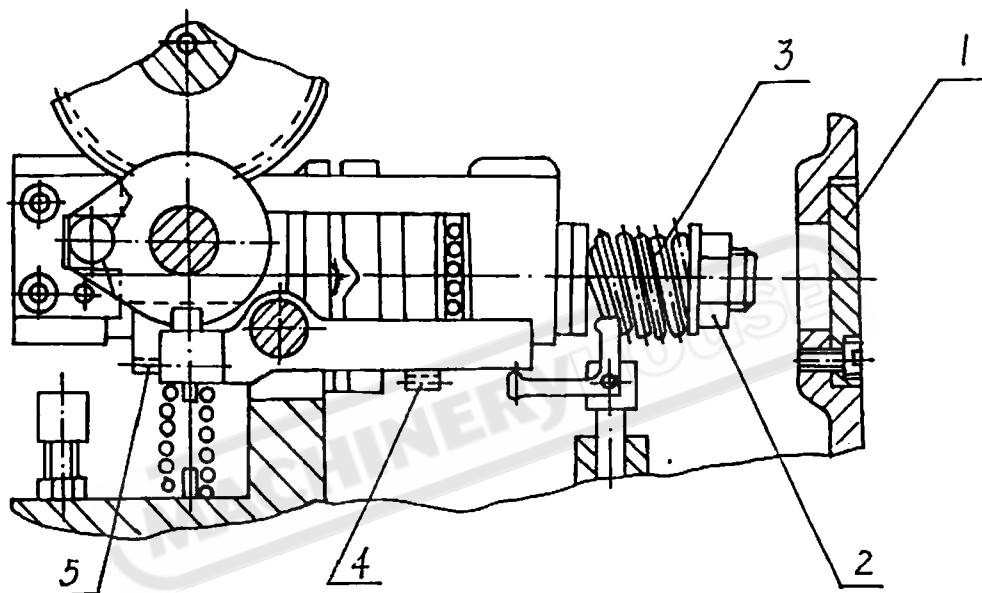

Fig: 7
A over load clutch is fitted in apron. In case of over load, the worm (5, Fig.7) stop rotating, but the gear (4, Fig.7) continue rotating. The over load clutch jumps away automatically and depress the spring (3, Fig.7). As a result, the worm is disengaged from the worm gear and auto-feed is off.
1. Remove the end cover (1, Fig.7)
2. Properly adjust the nut (2, Fig.7). (Note: do not over tighten)
3. Tighten the end cover (1, Fig.7) again.